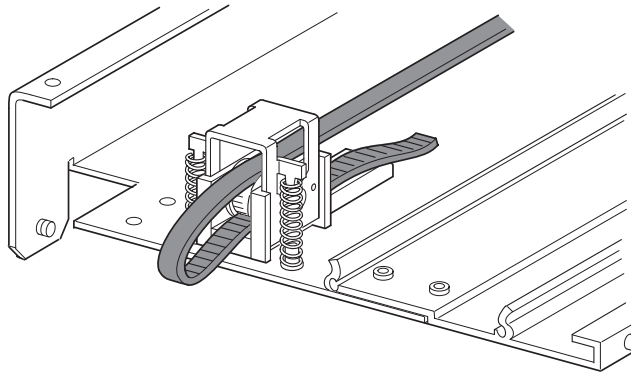
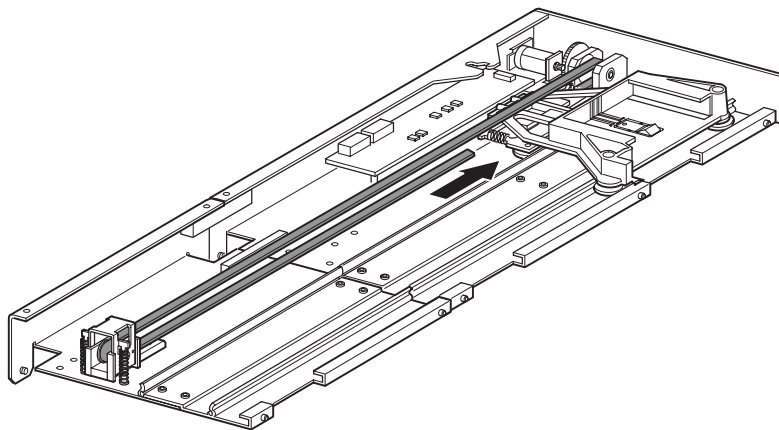

Figure 77. Timing belt installation base section
Figure 78. Timing belt installation
- 14. Thread the timing belt counter-clockwise through the top of the tensioner ramp/idler pulley and clockwise through the motor drive pulley as shown in Figure 77 on page 81 and Figure 78 on page 81.